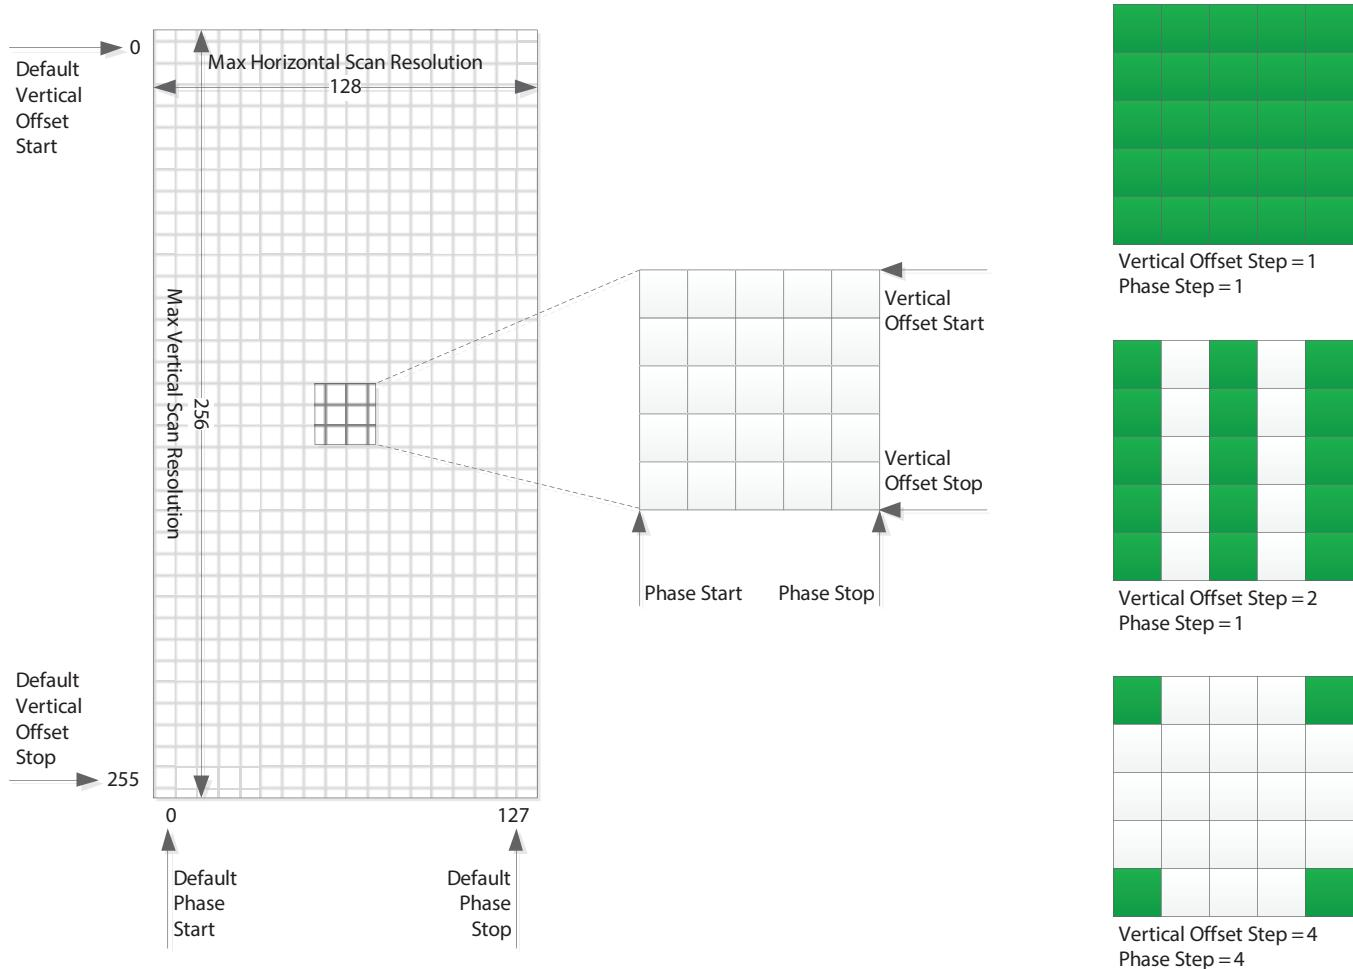

Figure 4-5: Eye Scan Matrix Parameters
Figure 4-5 shows a visual representation of the scan matrix and indicates the spatial parameters that determine the scan area and resolution. Running a scan using the default offset and step parameters, results in 32768 (128x256) samples. The number of samples and thus, the total scan time can be reduced to meet the needs of the application. The scan area can be reduced by reducing the span determined by the vertical and phase start and stop offsets, or the resolution can be reduced by increasing the step size between adjacent samples. On the right in Figure 4-5, there are three step settings used as examples, however there are a total of nine combinations possible. See Table 4-6 for the register addresses and parameter names of the spatial eye scan parameters.
- ◆ Making reference to the Matrix shown in Figure 4-5, the eye scan data starting at 0x6CC3 is stored in order from left to right, top to bottom, from the last stored vertical/horizontal position in the matrix